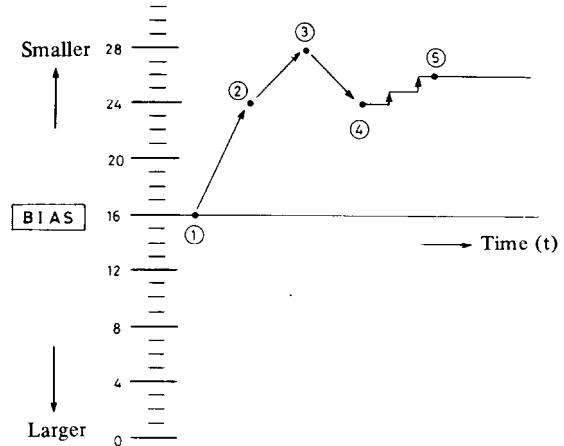
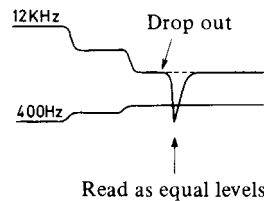
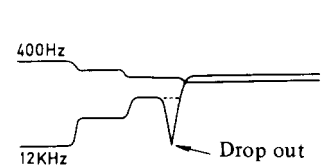

Fig. 2 Bias adjustment method
Fig. 3 Example of misoperation caused by drop out
Fig. 4 Example where effect of drop out is avoided
First the bias is set to step 16 which is in the center of the bias range shown in Figure 2. Then the 400Hz/12kHz mixed signal is subjected to a comparison operation to see which component is larger. If the 12kHz signal is larger, then the bias level is too small. If the 400Hz signal is larger, on the other hand, the bias level is too large. In the example shown in Figure 2, the bias level at step 16 is too large, so the bias is reduced by 1/4 of the total range (8 steps) to position (2) where the 400Hz and 12kHz components are again compared. If the 400Hz signal is still larger than the 12kHz signal, the bias level is further reduced by 1/4 of the total (4 steps) (3) and the components then compared again. This procedure is used for rough adjustment of the optimum bias. If at this stage, the 12kHz signal is now found to be greater than the 400Hz signal, the optimum bias is known to exist between steps 24 and 28. The operation is now switched to fine adjustment – the bias is increased by 1/4 and then reduced one step at a time from step 24. The step where the component signal size relationship is switched from 400 > 12k to 12k > 400 is taken as the optimum bias (5), and the bias is set at this level. This fine adjustment operation proceeds only from greater to lower bias levels in order to avoid misoperation due to possible drop outs. The effects of a drop out on the bias adjustment when the bias is changed from a smaller to a larger level is indicated in Figure 3, while the reverse case is indicated in Figure 4.